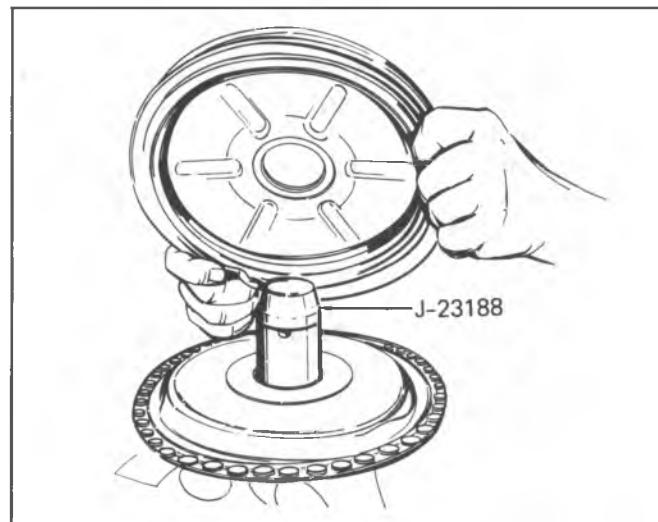

Fig. 5-13A--Positioning Housing Divider Over Secondary Bearing Protector Tool J-23188
29. Position Secondary Bearing Protector Tool J-23188 on the threaded end of the secondary power piston (fig. 5-13A).